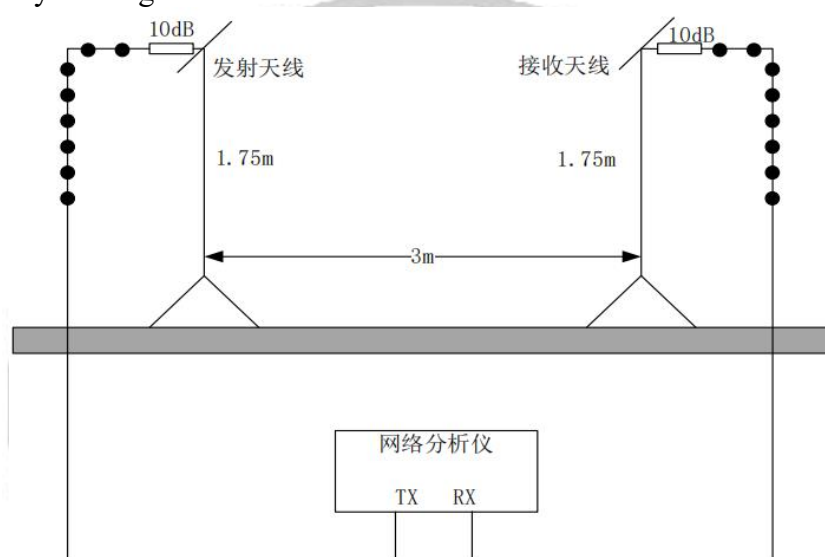

Figure 1: Layout of directional map measurement
- 1) Install the tested antenna in a free space, and the connection arrangement between the tested antenna and the measurement system is shown in Figure 1;